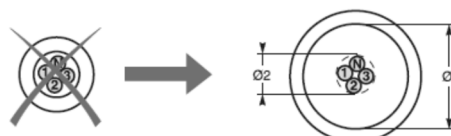

Fig. 5
4. As a rule, select a toroid that has an inside diameter which is twice that or greater than the outside diameter of the cable(s) to be passed through (see Fig. 5)